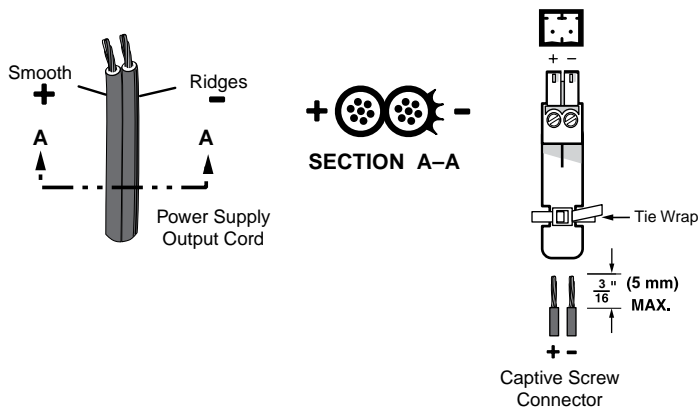

Figure 2. Power Connector Wiring
Figure 2 shows how to wire the connector. Use the supplied tie-wrap to strap the power cord to the extended tail of the connector.
- Power supply voltage polarity is critical. Incorrect voltage polarity can damage the power supply and the unit. The ridges on the side of the cord (see figure 2 on the previous page) identify the power cord negative lead.